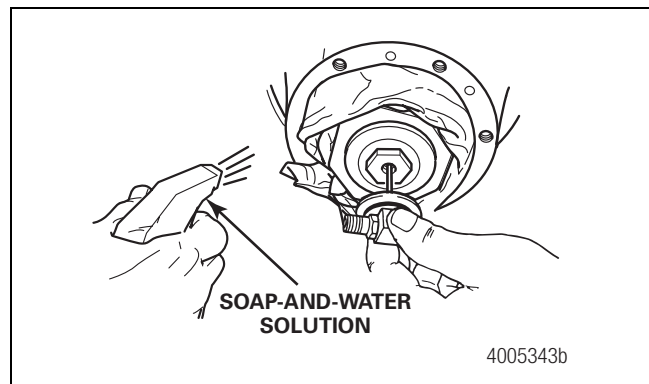

Figure 3.21
- G. Ensure to hold the tee straight into the axle. Spray the press plug area with a soap-and-water solution to check for leaks. Figure 3.21.